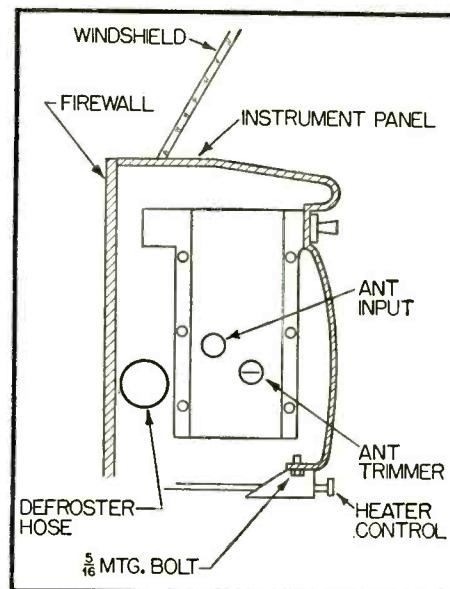

Fig. 4—Cross section of instrument panel of Buick.
The unit is mounted directly behind the radio grille in the center of the instrument panel, (see Fig. 4), and its removal is one of the easiest of current models.
- 1) With a 7/16" wrench remove the heater control which is mounted directly below the radio grille (see Fig. 4) and drop the control down and out of the way. The wires and cables are long enough so that no other disassembly is necessary.
► Fig. 4—Battery power supply for obtaining various values of "C" bias. Higher voltage "C" batteries may be substituted.